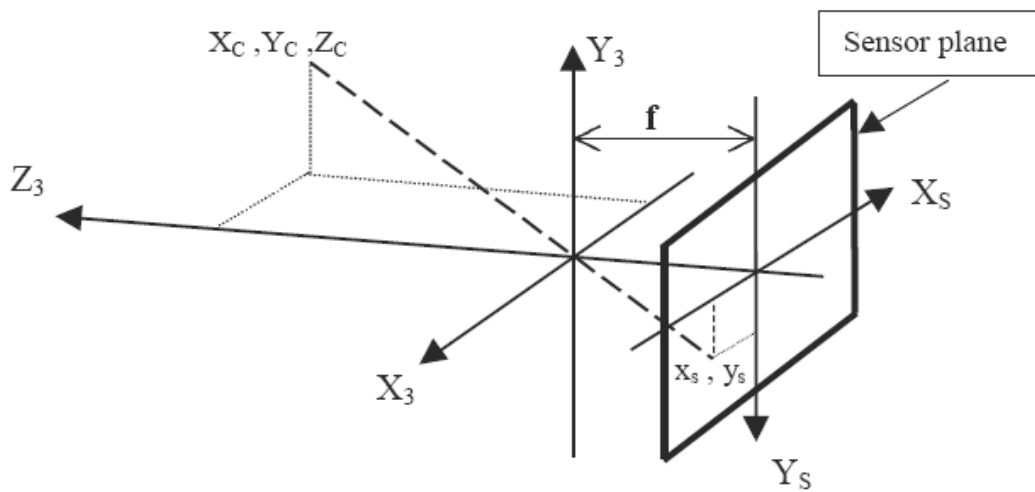

Figure 3:
- ii. A simple pin-hole lens camera model is shown in Figure 3. The lens system of the video camera projects a scene onto the flat sensor plane of the camera to generate an image. In other words, a point in space that has (X_C, Y_C, Z_C) coordinates with respect to the camera frame (Frame 3 in this problem) is projected (mapped) to the point (x_s, y_s) on the sensor plane. The camera frame is attached to the center of the lens system and the sensor plate is located at a distance f (the focal length) beyond this point. Derive this mapping.